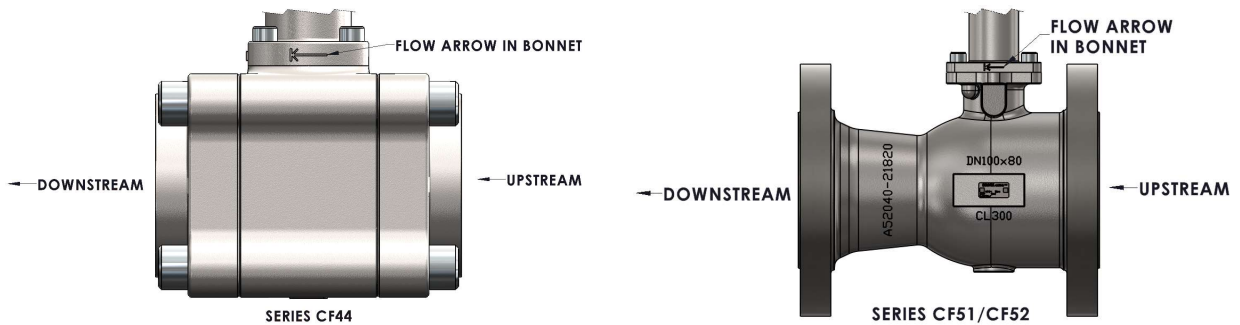

Figure 1 : Flow Direction
- 3.2.1 The Worcester Cryogenic ball valves are unidirectional for flow in one direction only and therefore can only be installed in one direction i.e., these valves are vented & should be installed with the arrow on the body pointed in the direction of normal flow. With the valve in the closed position, install it with the relief hole in the ball on the upstream side. The arrow on the body or bonnet will point downstream when the valve is open (Fig. 1).